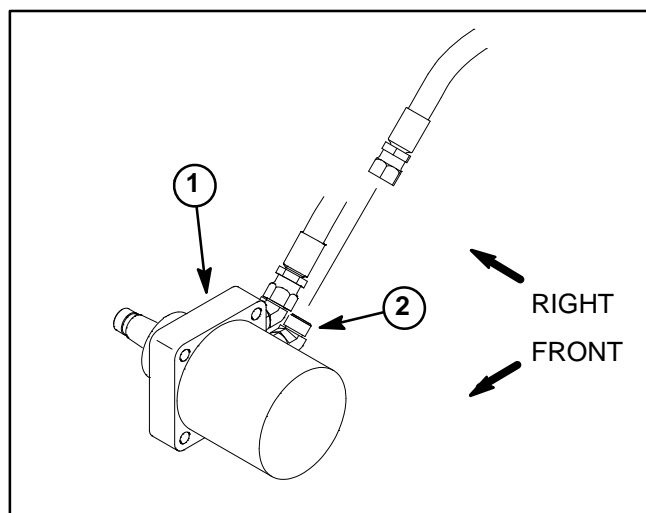

Figure 42
3. Thoroughly clean junction of hydraulic hose and lower fitting on rear wheel motor (Fig. 42). Disconnect hose from lower fitting on wheel motor.